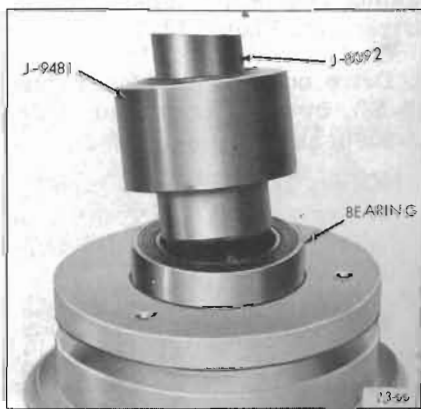

Figure 13-55—Installing Bearing into Pulley Assembly
2. Drive new bearing into pulley assembly (see Figure 13-55) with Installer (J-9481) and Handle (J-8092).